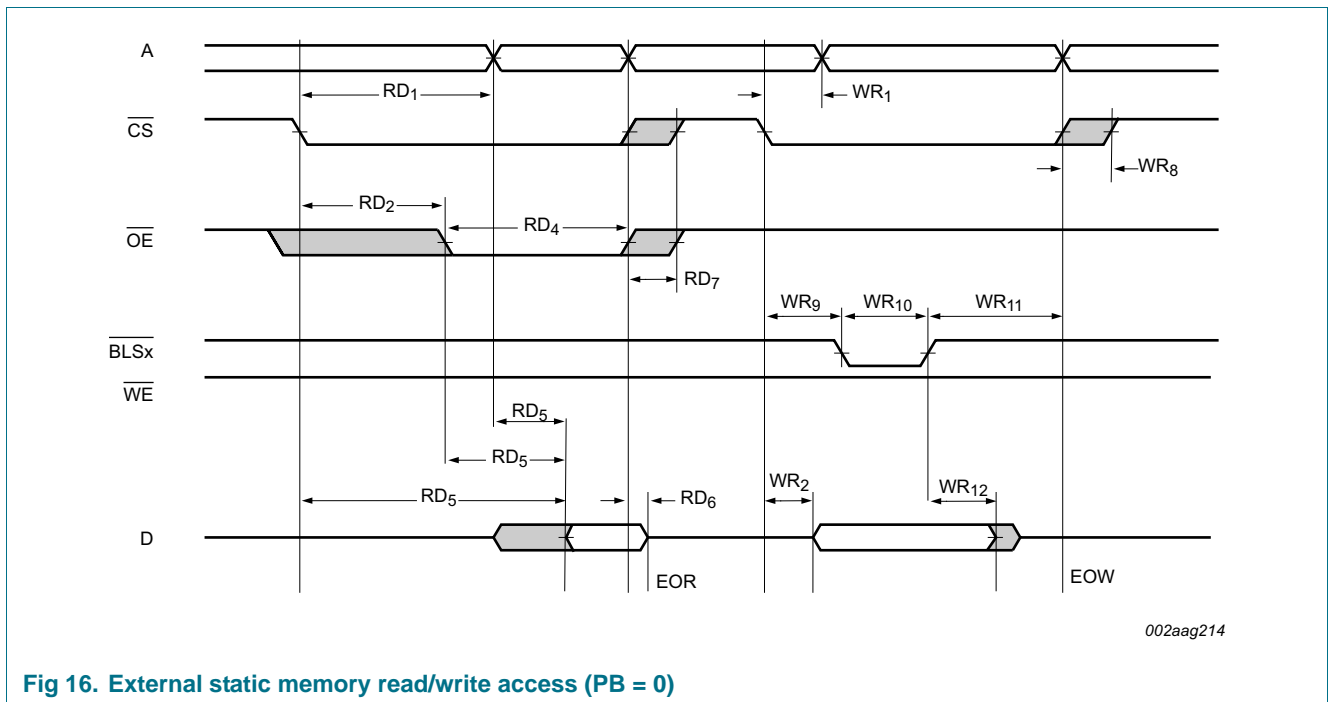

Fig 16. External static memory read/write access (PB = 0)
- [1] Parameters are shown as RD_n or WR_n in Figure 16 as indicated in the Conditions column.